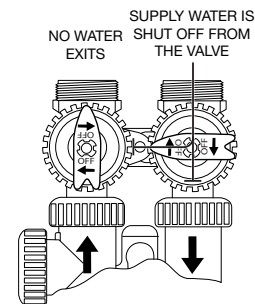

Figure 6: Shut Off Operation
- **Shut Off Position:** When the inlet handle points to the center of the bypass valve and the outlet handle points in the direction of flow, the water is shut off to the plumbing system. If water is available on the outlet side of the filter, it is an indication of water bypass around the filter (i.e. a plumbing connection somewhere in the building bypasses the filter). (Refer to Figure 6).